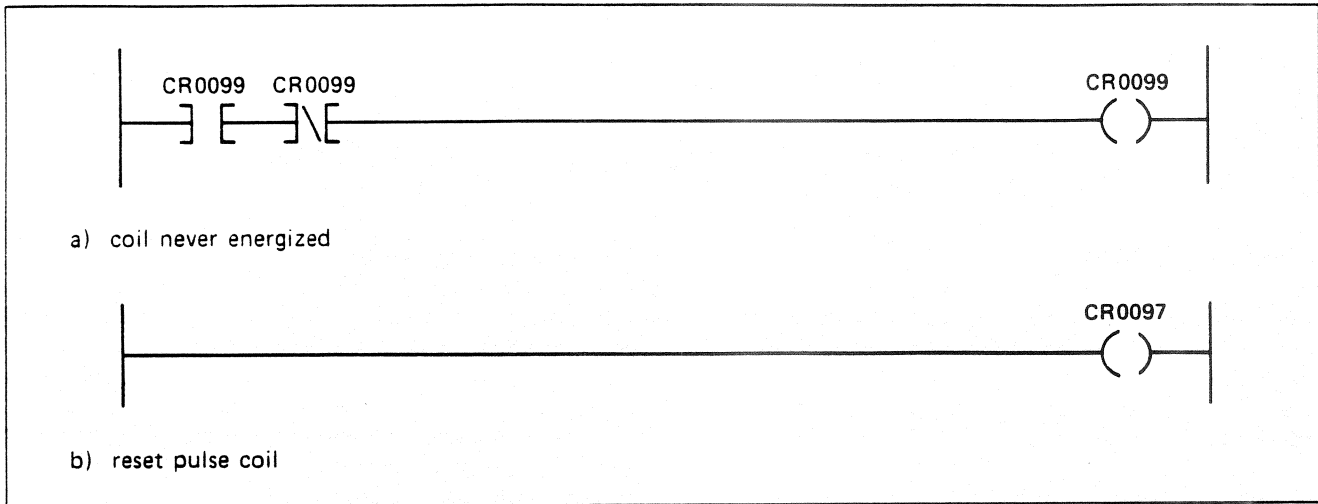

Figure 10-1. Dummy Coil Circuit
The best method for programming a dummy coil, which is never energized, is illustrated in Figure 10-1(a). As shown, forcing coil CR0099 causes its contacts to change state. When the force is cleared, the coil automatically returns to the off state. In addition to
A pulse used to generate the resetting of programmable functions such as timers, counters, or the Zero Table (051) function can be generated as shown in Figure 10-1(b). Locate the rung like the one shown in the Figure at the end of the main ladder program. The coil will be de-energized until the first scan is completed after AC power is first applied to the processor or the keyswitch is turned to any RUN position from the STOP: PROGRAM position. Contacts from the coil (CR0097 in this example) provide a nonconducting path during the